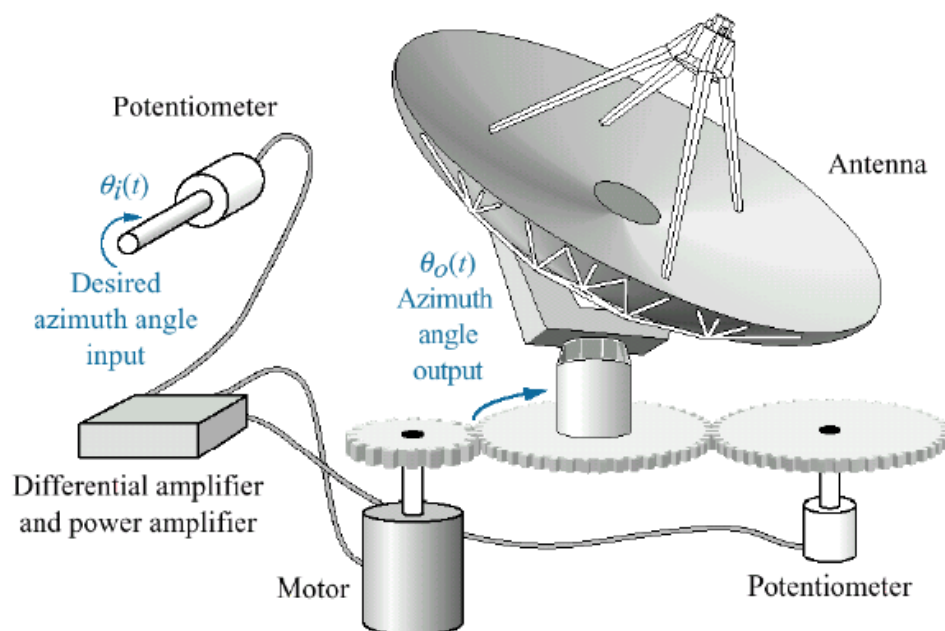
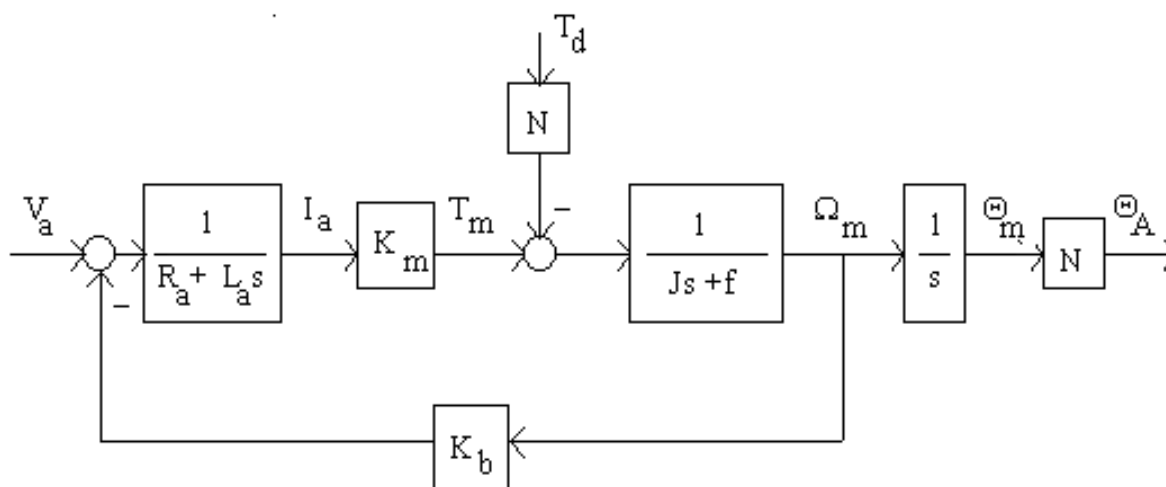

Fig. 1 Layout of antenna position control system
Fig. 2 Block-diagram of an armature controlled DC motor
The angular position of an antenna is controlled by an armature controlled DC motor. A control system layout is presented in Fig. 1 and a block-diagram of an armature controlled DC motor is presented in Fig. 2.
Neglect dynamics of the armature winding assuming $L_a = 0$ at the block-diagram of the armature controlled DC motor (Fig. 2).
2. Present the simulation diagram and simulate the compensated closed loop antenna position control system (Fig. 2 and 3) with and without the prefilter and zero initial conditions. Apply the disturbance $T_d(t)$ in 3 seconds after $\Theta_A^*(s)$. Plot Θ_A^* vs t , Θ_A vs t , V_a vs t , e_A vs t and T_d vs t . **Type in your name** on all plots. The legends and the variable units must be included in the plots. (20 pts)
4. Present the simulation diagram and simulate the compensated closed loop antenna position control system (Fig. 2 and 4) with and without the prefilter and zero initial conditions. Apply $T_d(t)$ in 3 seconds after applying $\Theta_A^*(t)$. Plot Θ_A^* vs t , Θ_A vs t , V_a vs t , and $T_d(t)$ vs t . **Type in your name** on all plots. The legends and the variable units must be included in the plots. (20 pts)